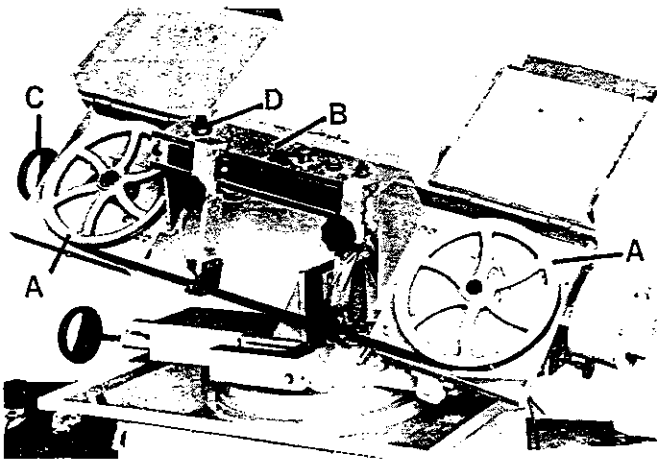

FIG. 1
2. Raise the saw frame about 6" and close the feed rate knob (D) Fig.1 by turning it clockwise as far as it will go.
4. Release blade tension by turning the blade tension handwheel (C) Fig.1 counterclockwise.
7. Place the blade in place on the wheels (A) and through the upper blade guard(B) Fig.1